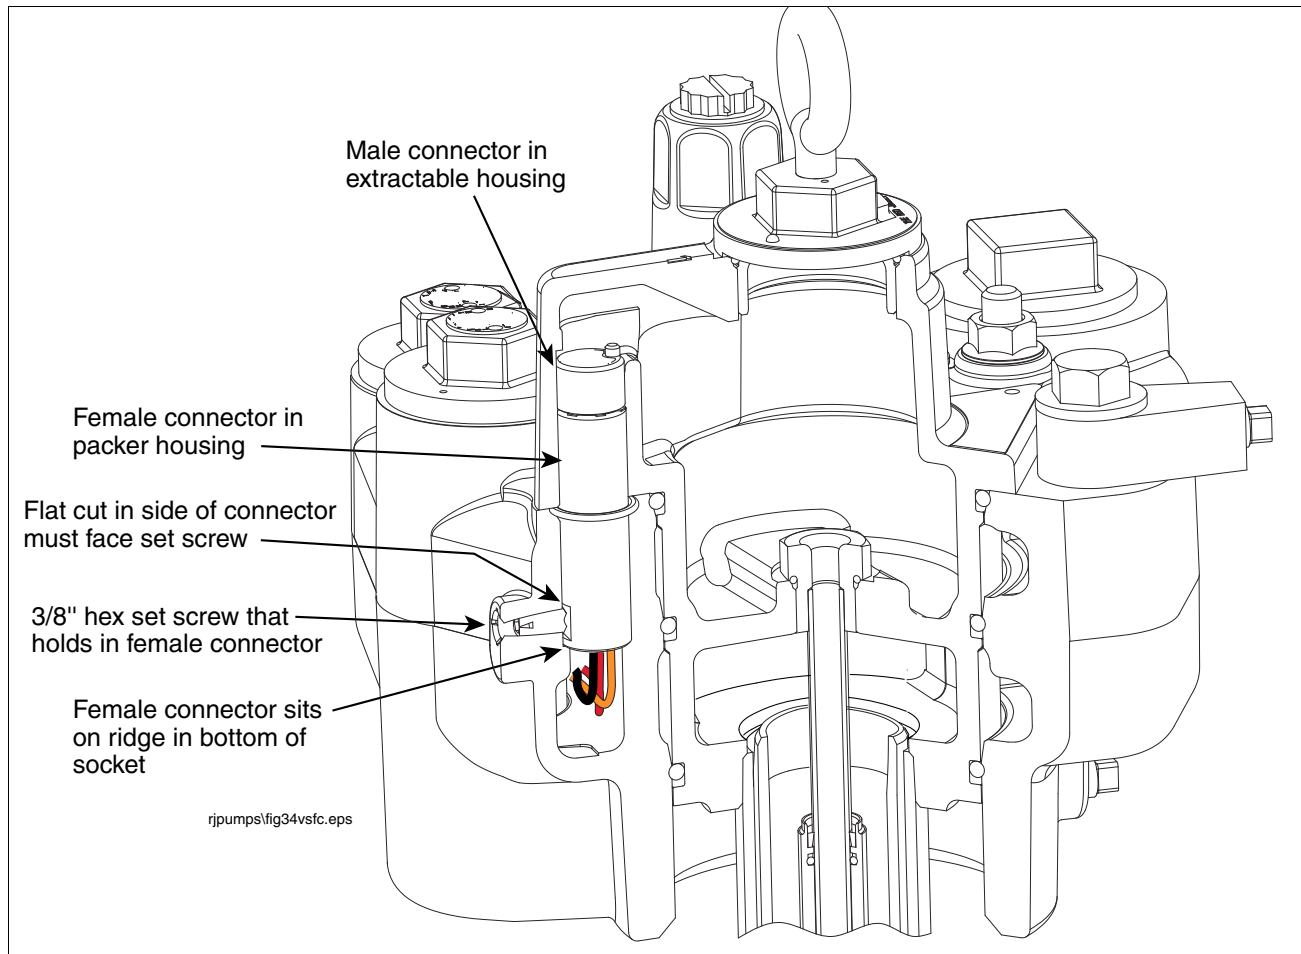

Figure 35. Locating Female Connector Set Screw
18. Using a 3/16" hex wrench, turn the set screw that holds the female connector in place about 1-1/2 turns counterclockwise until you can lift out the connector (see Figure 35).